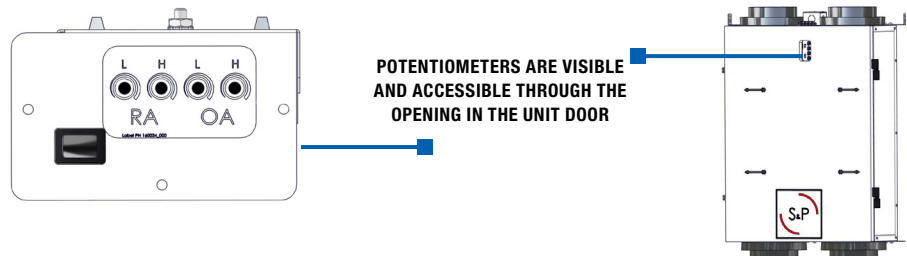

FIGURE 4.9.1 FAN SPEED CONTROL POTENTIOMETERS
- Take a differential pressure reading for the OA airstream by installing the “high” pressure side (+) of the measuring device to the OA port and the “low” pressure side (-) to the SA port. Compare the pressure drop to the chart in section 5.2.1 to obtain the CFM. Adjust the fan speed potentiometer (See figure 4.9.1) to obtain the desired CFM. Enter the CFM information in the box in section 5.2.2.
- Take a differential pressure reading for the RA airstream by installing the “high” pressure side (+) of the measuring device to the RA port and the “low” pressure side (-) to the EA port. Compare the pressure drop to the chart in section 5.2.1 to obtain the CFM. Adjust the fan speed potentiometer (See figure 4.9.1) to obtain the desired CFM. Enter the CFM information in the box in section 5.2.2.
- After adjusting the potentiometers, take additional readings as needed to verify that fan speed settings are correct. See Figure 4.9.1.